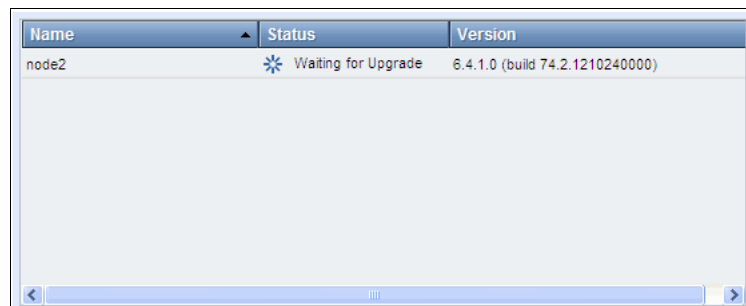

Figure 9-35 Non-config node is removed
5. The non-config node is removed from the Upgrade Machine Code panel, as shown in Figure 9-35.